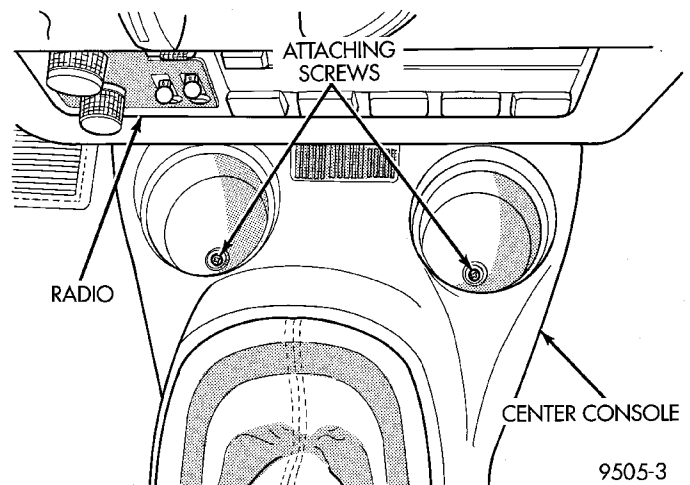

Fig. 45 Attaching Screws At Front Of Center Console
- (2) Remove the 2 screws located in cup holders (Fig. 45), attaching front of center console assembly to console bracket.
- (3) Raise park brake hand lever assembly as high as it will go for required clearance to remove center console.
- (4) Remove center console assembly from vehicle.
- (5) Lower park brake lever handle.